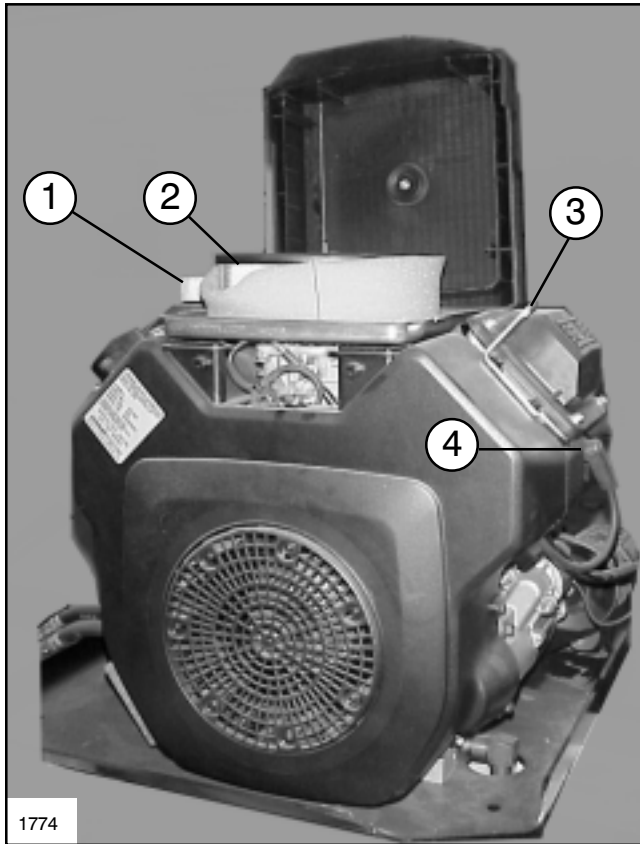
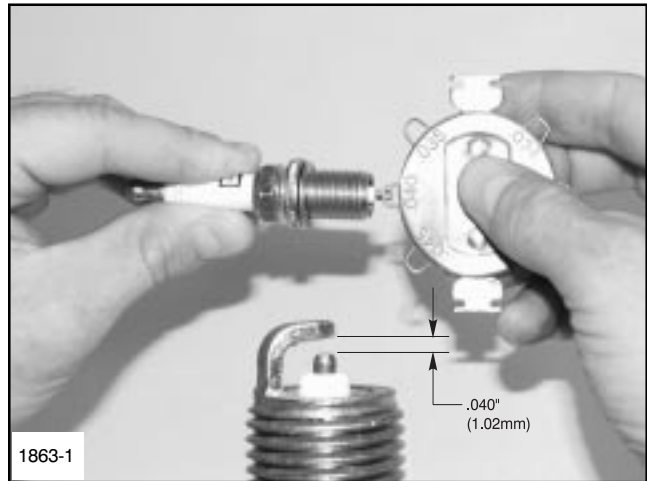

FIG. 18
FIG. 19
Every 100 hours of operation, remove the spark plug (See FIG. 18), check condition, and reset the gap (See FIG. 19) or replace with a new plug, as necessary. Replace spark plugs after every 400 operating hours to assure proper engine performance. Use a Champion® type RC12YC (or equivalent), spark plug.
3. Check the gap using a wire feeler gauge. Adjust the gap to .040 in. (1.02mm) by carefully bending the ground electrode. (See FIG. 19)